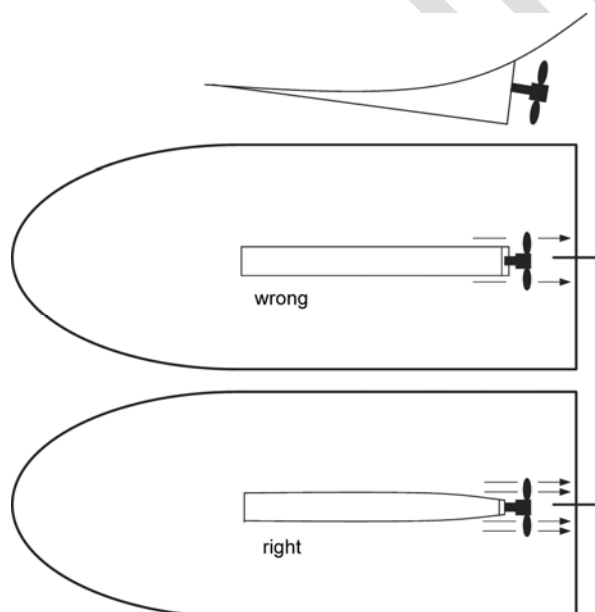

Figure 4: Propeller system
- Inflow of the water from the propeller. For example, a propeller with a 2.4 kW drive moves about 280 liter water per second. The water inflow should be disrupted at a minimum and the water should flow horizontally through the propeller. If the boat has a keel from which the propeller protrudes, then the keel must be narrowed above and below the propeller shaft to get the inflow to the propeller as smooth as possible. See Figure 4. The view of the keel shows the difference between a straight keel and a keel that is narrowed.